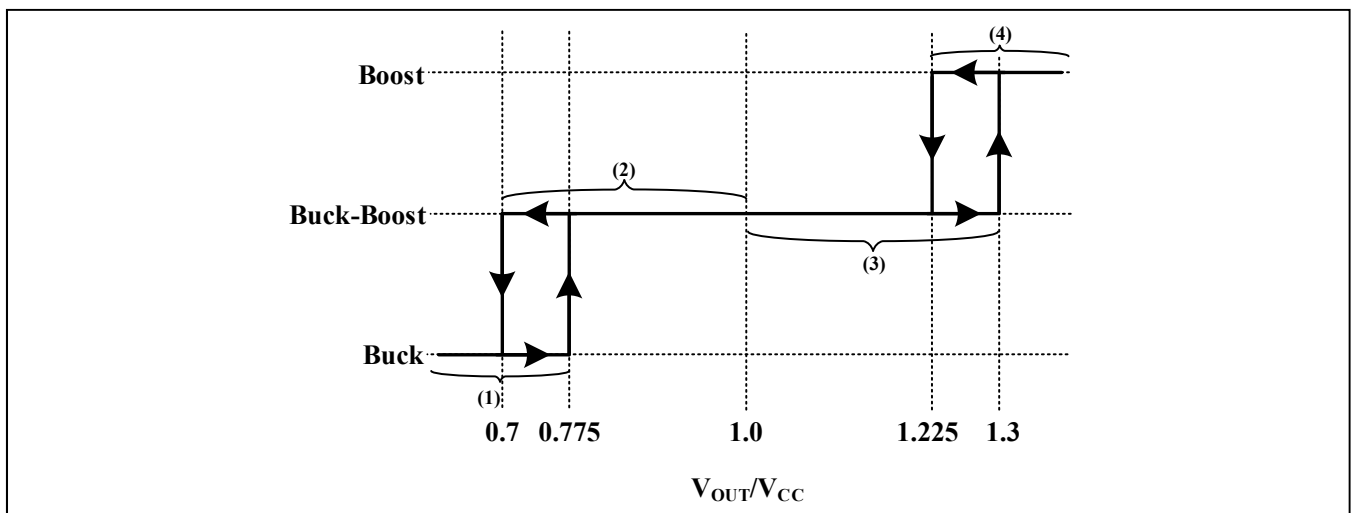

Figure 32 Operating Regions vs. V_{OUT}/V_{CC} Voltage Ratio
peak/valley current sense resistor R_{CS} , and the input over current sense resistor R_{INSEN} . The output current sense resistor R_{IS} is connected to ISP and ISN pins to detect the output current. The current sense resistor R_{CS} is connected to the CS pin and provide inductor current information for both peak current detection of Boost control loop and reverse valley current detection of Buck control loop. The input current sense resistor R_{INSEN} connected to the VCC and INSENSE pins serves as a secondary protection to protect input over current fault. The operating region is decided by the V_{OUT}/V_{CC} voltage ratio. The IS32LT3959 controls the power switches for a smooth transition between the regions. The hysteresis is added to prevent jittering between regions. As Figure 32.
As Figure 32, there are three operating regions decided by the V_{OUT}/V_{CC} voltage ratio: (1) the operating mode is constant ON-Time Buck region, (2) and (3) the operating mode is constant ON-Time Buck and peak